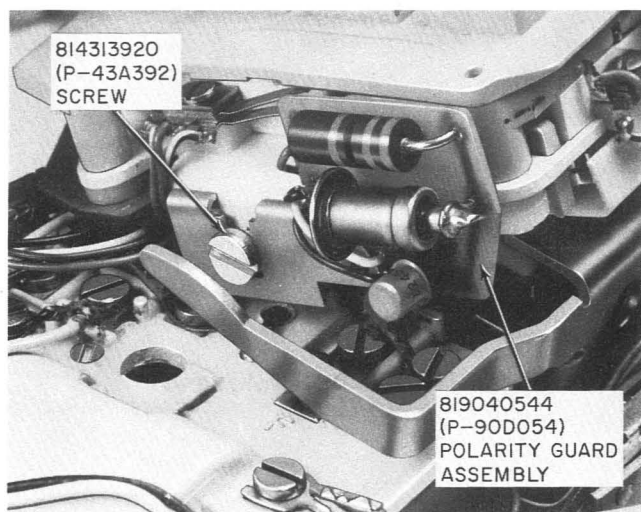

Fig. 8—Polarity Guard Mounted in PRINCESS Telephone Set
- (5) Reinstall dial on mounting bracket, securing the guard assembly mounting bracket under the right-hand dial mounting screw (Fig. 8).
- (6) Reinstall housing.